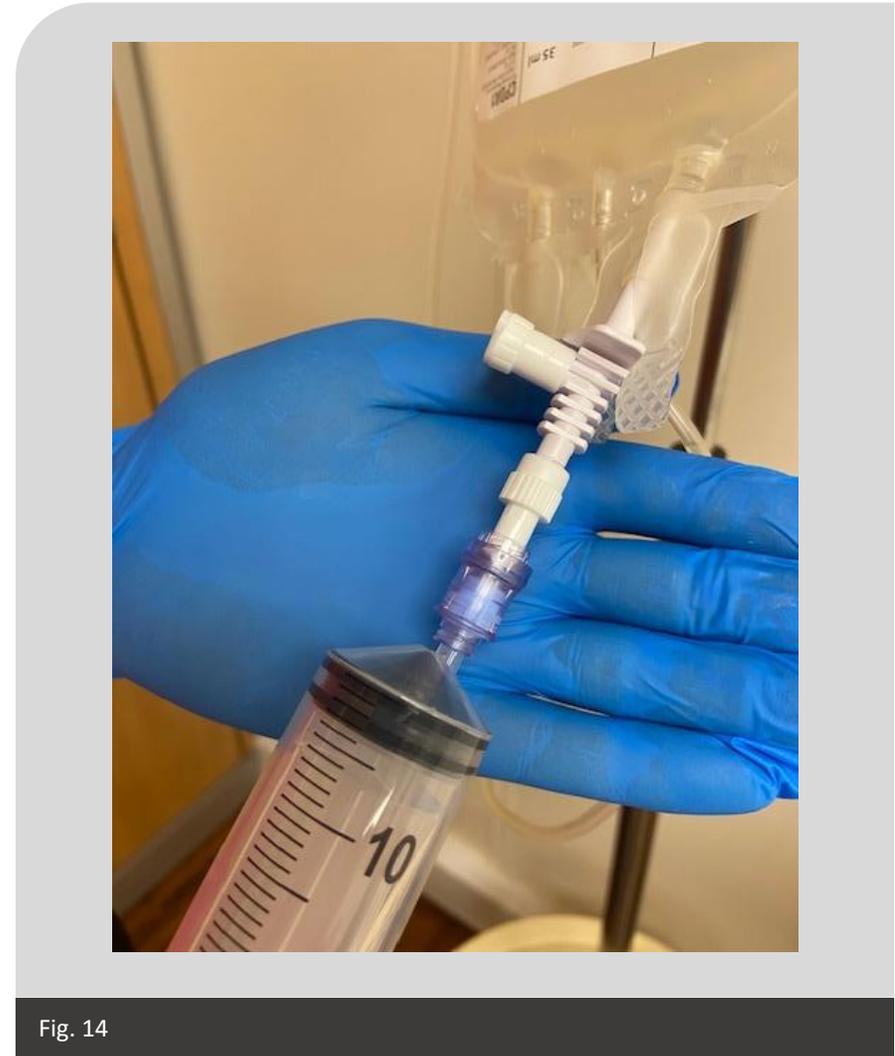

Fig. 14
- Push the syringe luer into the needle-free valve attached to the collection bag with a twist and ensure it is seated securely (Fig.14).